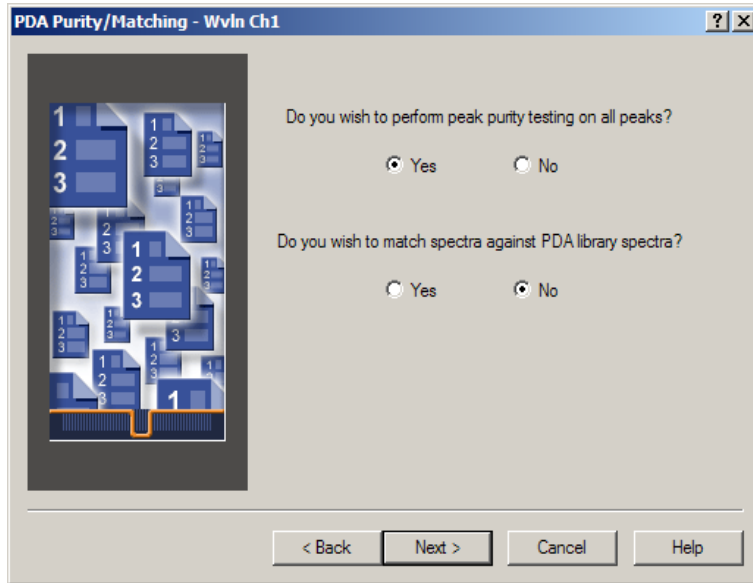
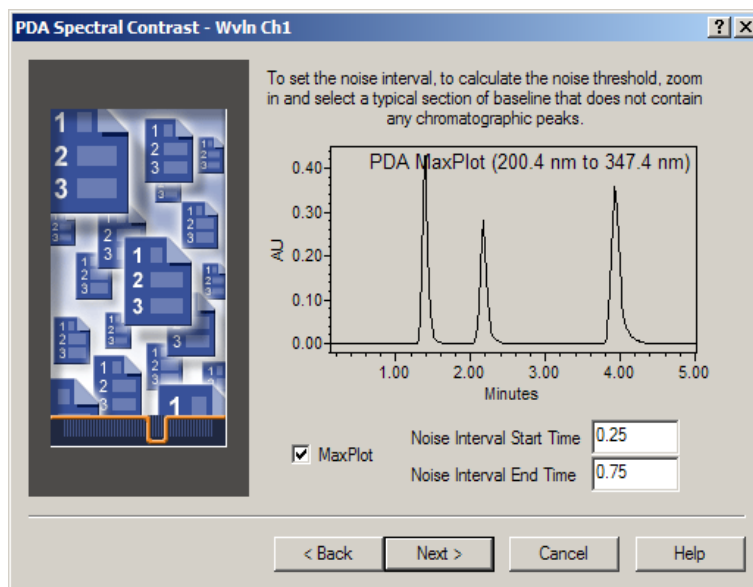

Figure 3-13 PDA Purity/Matching Page
Figure 3-14 PDA Spectral Contrast Page
- Click 1 to the left of the Name column in the first row. Press **Shift** and click 3 to the left of the Name column in the third row. All rows are highlighted. Press **Delete** on your keyboard to remove all entries from this table. Click **Next** on this page and successive pages until the PDA Purity/Matching page appears (Figure 3-13).
11. Ensure **Yes** is selected for the question “Do you wish to perform peak purity testing on all peaks?”. For the question “Do you wish to match spectra against PDA library spectra?” click **No** (Figure 3-13). Click **Next** to go to the PDA Spectral Contrast page (Figure 3-14).